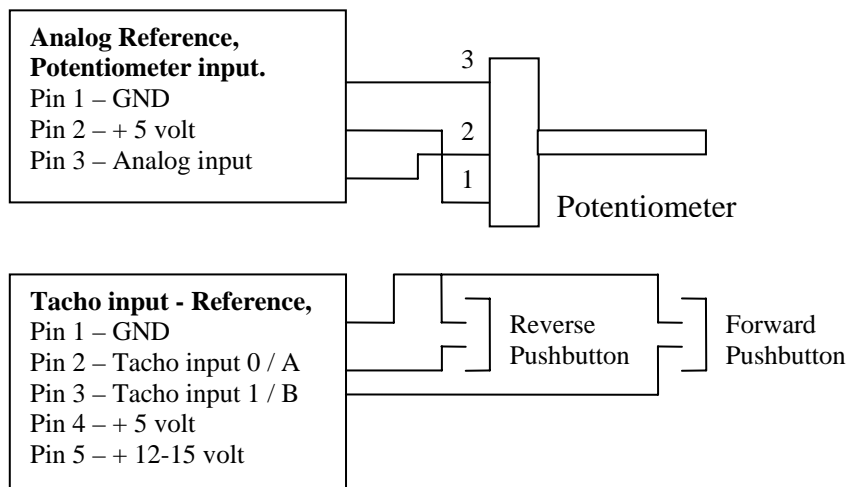

Figure 1: Connection for direction and speed controlled with buttons potentiometer.
E.g. we have a turntable; we want to turn in one direction at the push on a button. We want it to turn at one specific speed, but we need to adjust the speed to determine at which speed it should turn. Placing a potentiometer on the Analog Reference, and placing a pushbutton between GND (Pin 1) and Tacho 1 (Pin 3), will enable us to do just that. See figure 1.